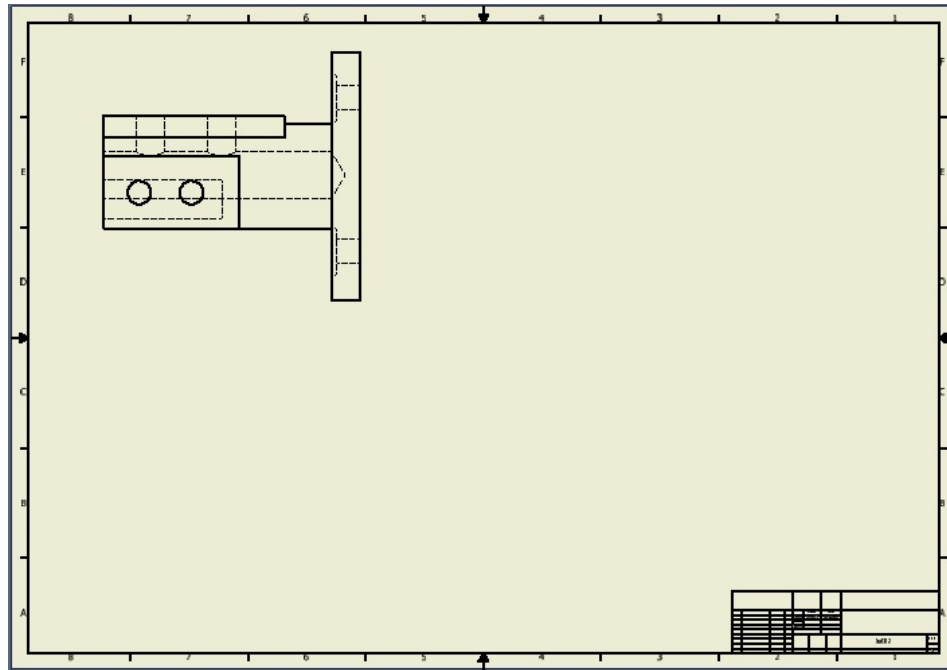

Figure 11-47 Drawing sheet with the drawing view
6. Select and drag the drawing view to the top left corner of the sheet, see Figure 11-47.